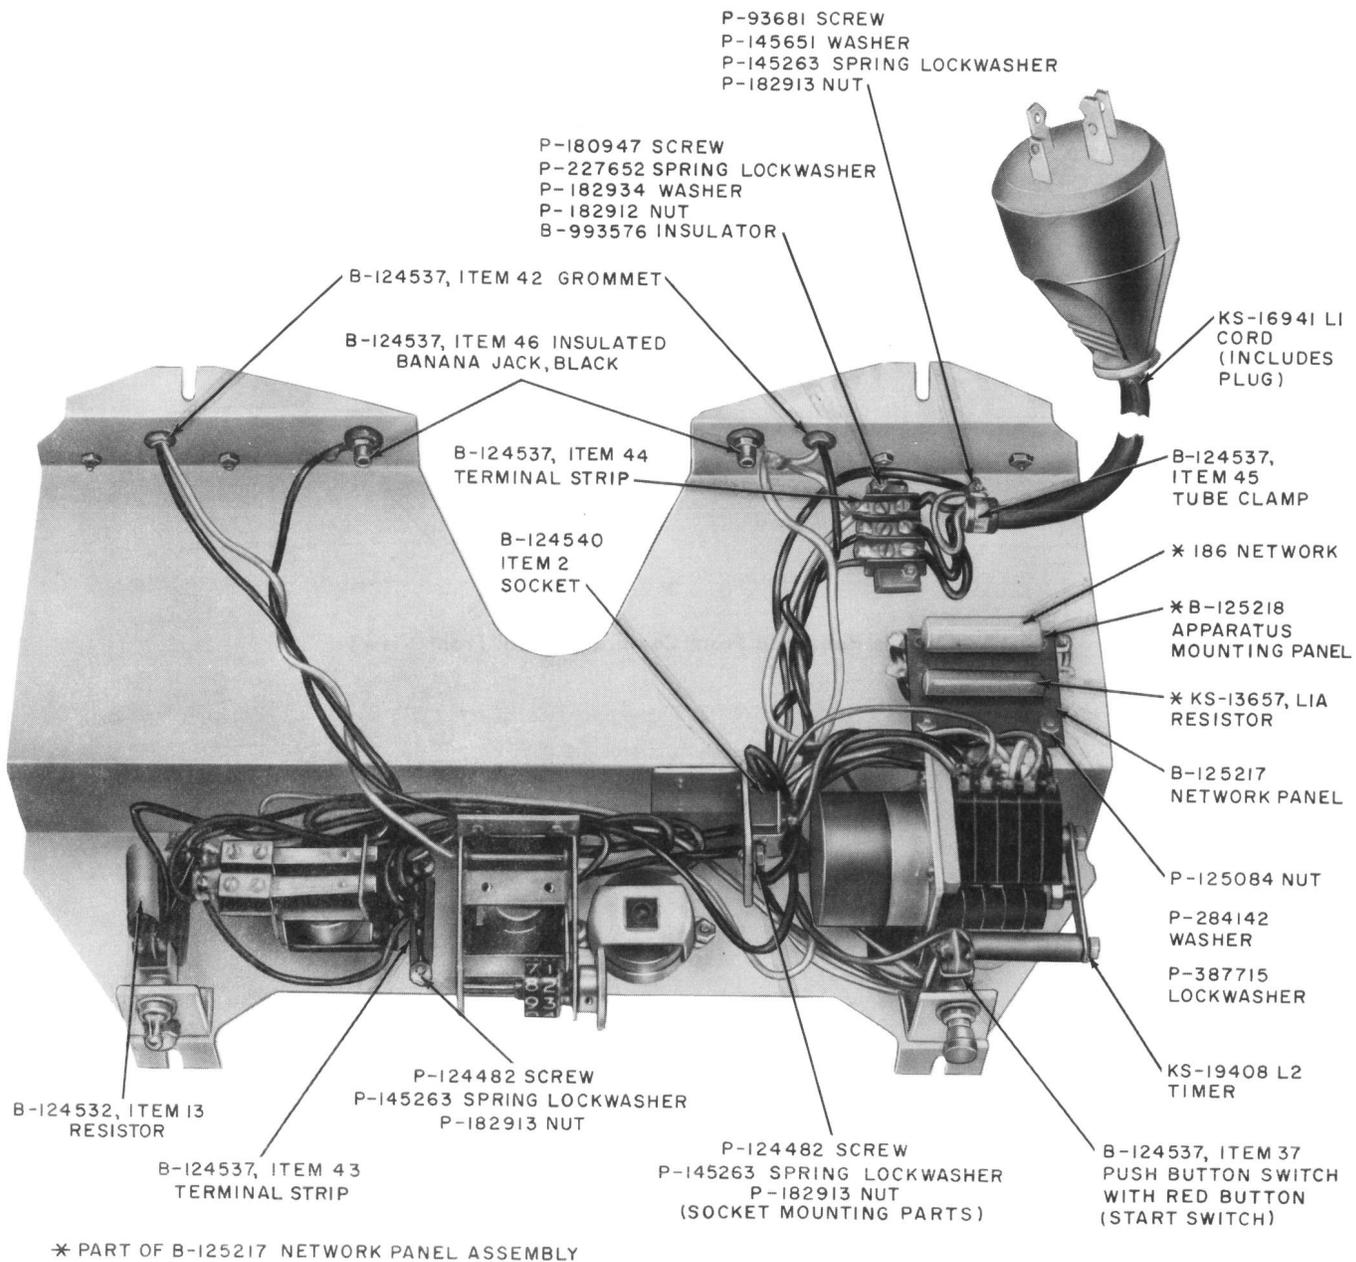
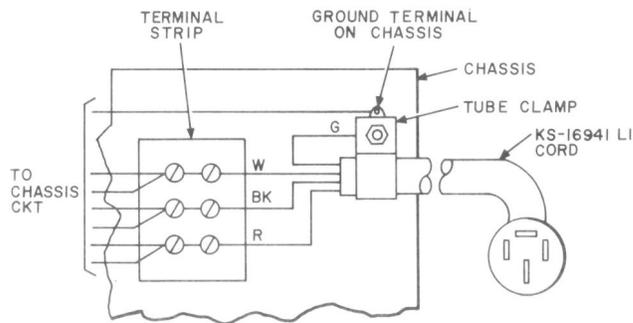

Fig. 1—Chassis Removed From Camera (Top View)
Fig. 5—KS-16941 L1 Cord Wiring Schematic
1.08 All cameras manufactured after September 1972 will have a B-993576 terminal insulator added to the chassis assembly (Fig. 1) to prevent short-circuiting. This insulator should be installed under the terminal block of units presently in the field only when field repair of the unit is attempted.
3.05 Start Switch:	Fig. 1—Tag and unsolder the leads from the switch terminals. Remove the knurled nut using the combination pliers and remove the switch. Set the hexagonal nut of the new switch at approximately the same position on the switch mounting stud as that of the nut on
3.10 KS-19408 L2 Timer: Fig. 1
3.11 Network Panel: Fig. 1—Using the 33 socket wrench, remove the panel mounting nuts, washers, and lockwashers. Tag and unsolder the leads to the panel terminal. Solder the leads to the proper terminals on the new panel, and mount the panel making sure that the washers and lockwashers are under the nuts.
3.14 Socket: Fig. 1—Remove the mounting bracket screws and associated nuts and washers using the 4-inch E screwdriver. Move the bracket to a position convenient for disconnecting the leads to the socket. Tag and unsolder the leads. Using the 4-inch E screwdriver, remove the socket mounting screws and associated nuts and washers. Mount the new socket on the bracket with terminals 1 and 2 at the top, and securely tighten the mounting screws. Connect and solder the leads to the proper terminals of the socket. Remount the bracket on the chassis, and securely tighten the screws.
3.15 Banana Jack: Fig. 1—Remove the jack mounting nut with the 417A wrench. Remove the terminal and insulating washer. Remove the jack. Substitute the new jack, and place the insulating washer on the jack with the shoulder of the washer in the mounting hole. Place
3.17 KS-1694 L1 Cord: Fig. 1—Remove the tube clamp mounting nut with the 418A wrench while holding the clamp mounting screw with the 3-inch C screwdriver from the rear of the panel. Remove the washers and clamp. Remove the green cord conductor from the tube clamp mounting screw. Disconnect the three cord conductors from the terminal strip using the 3-inch C screwdriver. Transfer the tube clamp to the new cord. Connect the red, white, and black conductors of the new cord to the terminal strip as shown in Fig. 5. Form a loop in the green conductor, and then hook the loop around the tube clamp mounting screw. Remount the clamp, washers, and clamp mounting nut. Securely tighten the mounting nut.